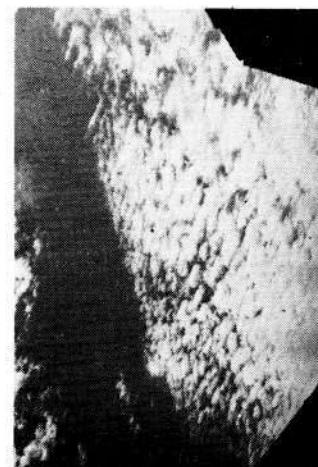

Fig. 183
2. **Cirro-cumulus.** Very high. Small, round, white and flakey. Seen in groups or lines—or ripples rather like sand formations on a beach. (Fig. 183).